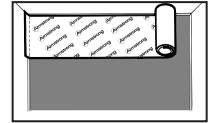

Figure 3
1. Install the underlayment in the same direction that the flooring will be installed. (Figure 3)